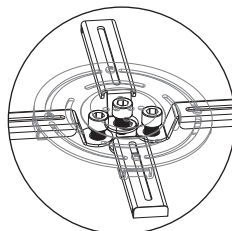

figure 18
3. Connect the installation arms to the projector conversely if the distance of installation holes is less than 120mm. Connect the installation arms (4-3) to the installation base (4-6) via sliding installation button (4-5) as figure 18